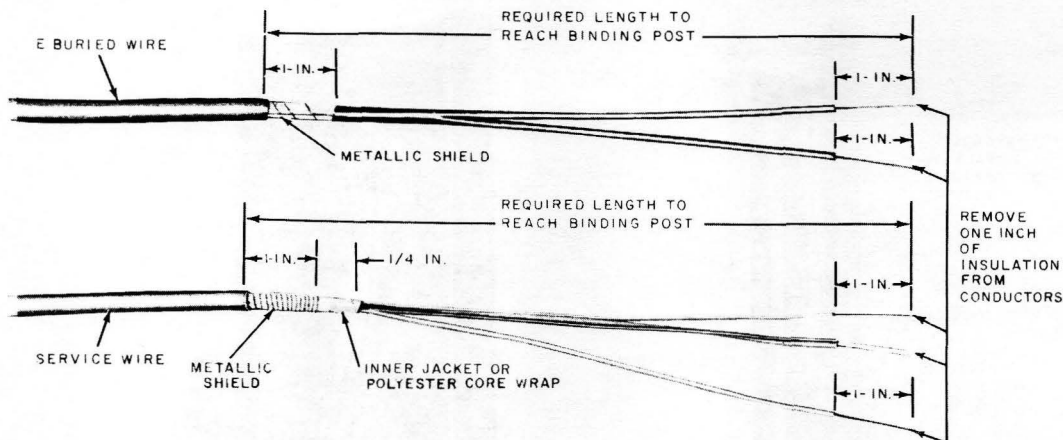
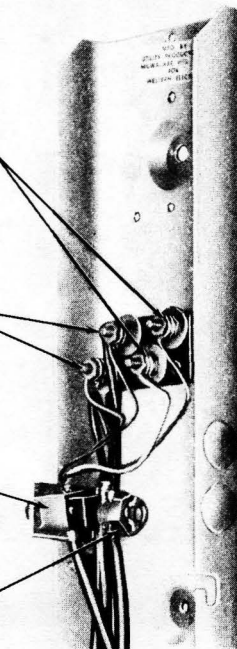

Fig. 23—♦Prepared Service Wire—D or E Buried Wire Terminal♦
Fig. 24—♦Service Wire Terminated—D or E Buried Wire Terminal♦
6.02 ♦The termination of service wire in either the D or E buried wire terminal is identical. Prepare the service wire as shown in Fig. 23 and terminate as shown in Fig. 24.♦